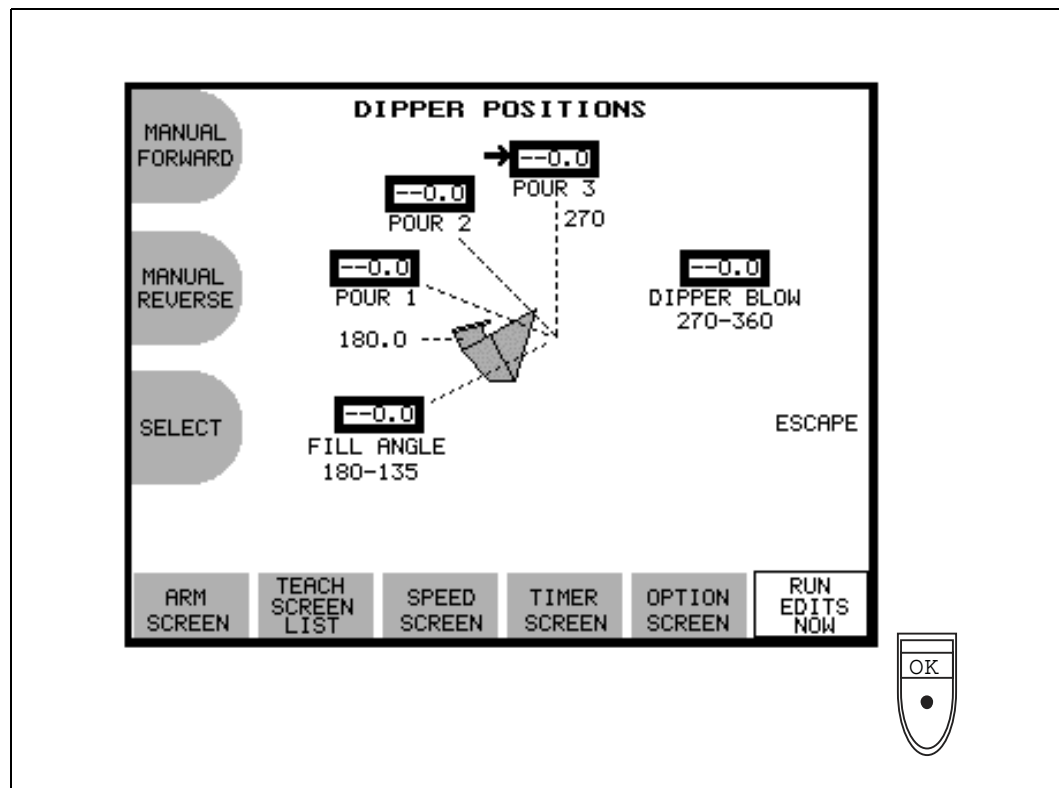
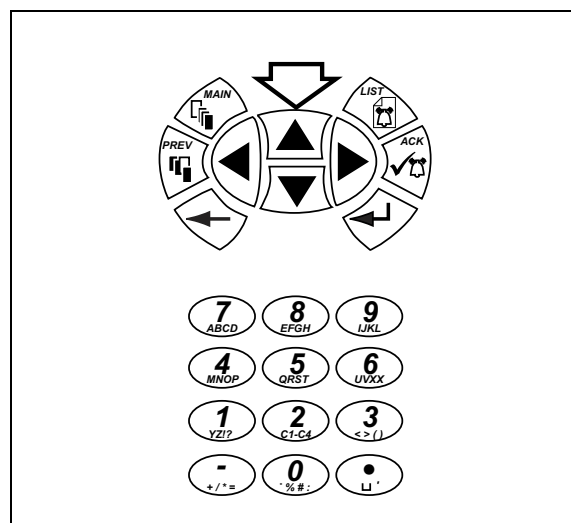

Figure 7-17: Dipper Positions Screen
Figure 7-18: Built-In Function Keys and Alpha/Numeric Keys
1. Access the Dipper Positions Screen (Figure 7-17) by pressing **Main>Teach>Go To Position Screen>Dipper Screen**.
2. Use the **SELECT** key or the arrow keys located on the Built-In Function Keypad (Figure 7-18) to select the Fill Angle field (Figure 7-17). Set the proper Fill Angle using the Alpha/Numeric keypad (Figure 7-18).